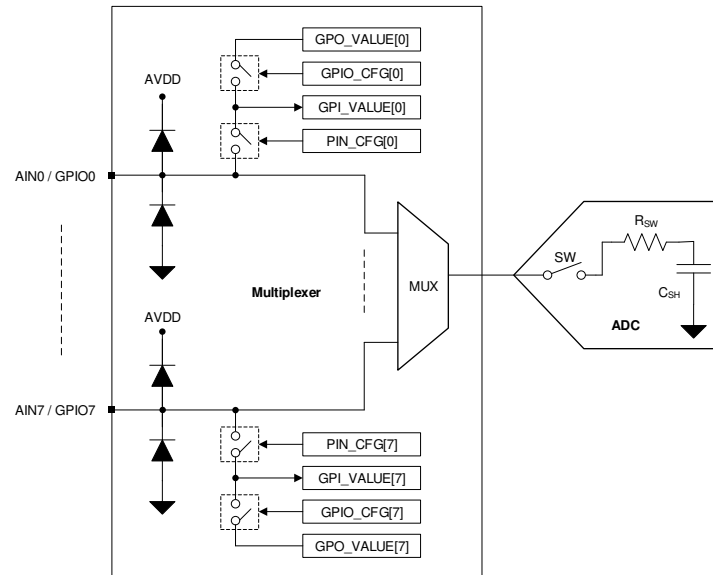

Figure 21. Analog Inputs, GPIOs, and ADC Connections
The eight channels of the multiplexer can be independently configured as ADC inputs or general-purpose inputs/outputs (GPIOs). Figure 21 shows that each input pin has electrostatic discharge (ESD) protection diodes to AVDD and GND. On power-up or after device reset, all eight multiplexer channels are configured as analog inputs.
Figure 21 shows an equivalent circuit for pins configured as analog inputs. The ADC sampling switch is represented by an ideal switch (SW) in series with the resistor, R_{SW} (typically 150 Ω), and the sampling capacitor, C_{SH} (typically 12 pF).